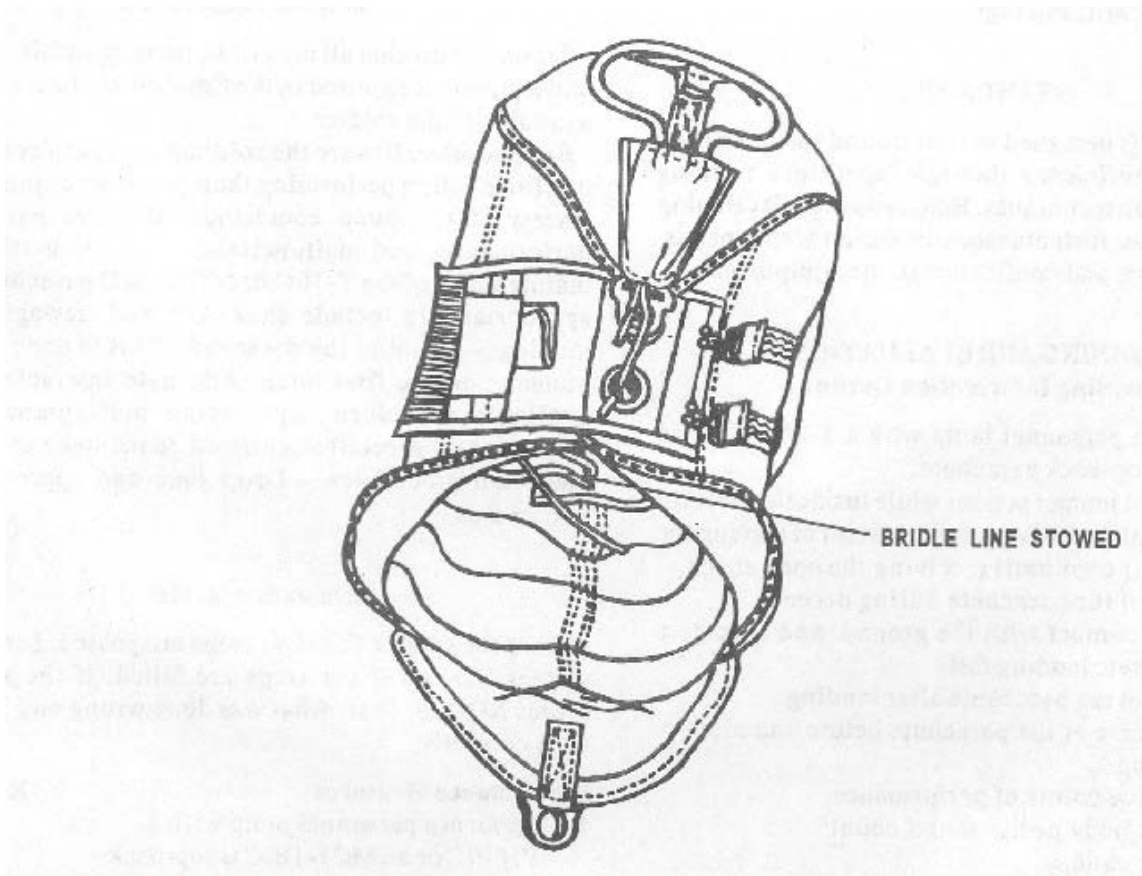

Figure 3-12
**6. Close pack and stow pilot chute. (See Figure 3-12)**